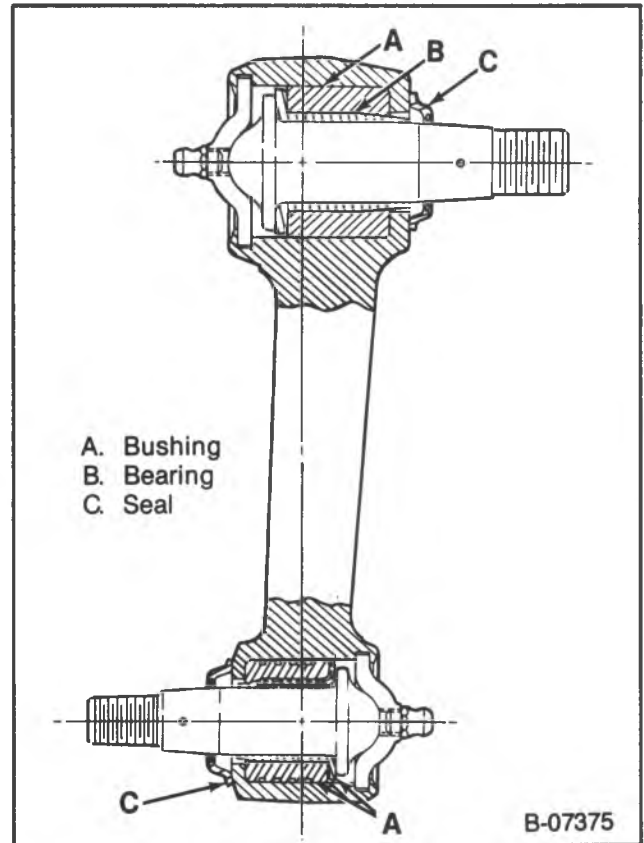

Figure 6 — Idler Arm (Internal View)
- Do not attempt to free the ball stud by using a pickle fork or wedge-type tool, because seal or bushing damage could result (figure 6). Use the proper tool to separate all ball joints.